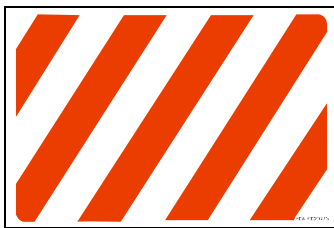

Figure 1.37.1
- Warning: Please do not get near to the machine when it is being operated (As figure 1.37.1).